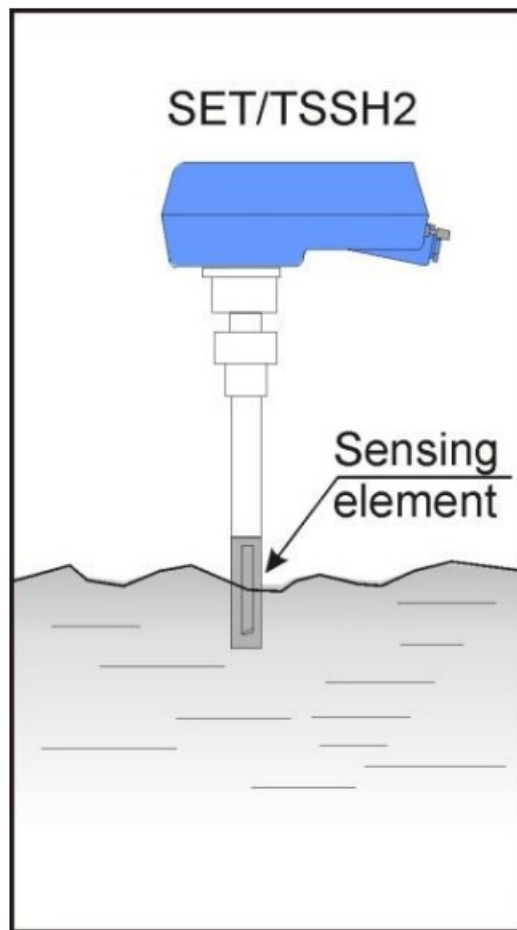

Fig. 4. Adjusting the switching point
2. When the sensing element of the sensor is half immersed in the liquid to be measured (see Fig. 4), the control unit should operate. If it doesn't, adjust the SENSE trimmer slowly counter clockwise until the desired switching point is reached.